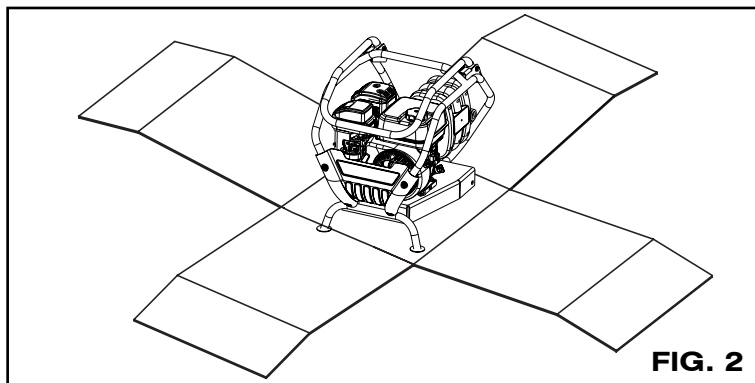

FIG. 2
2. Cut four corners of the carton from top to bottom and lay panels flat. (Fig. 2)